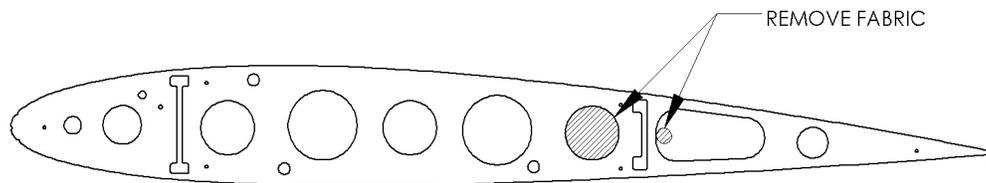

Figure 1, Wing Tip Fabric
2. Remove fabric from the wing tip ribs as shown in figure 1 (use a soldering iron to open a 1.0 inch diameter hole directly aft of the rear spar, use a razor blade to open all other holes).